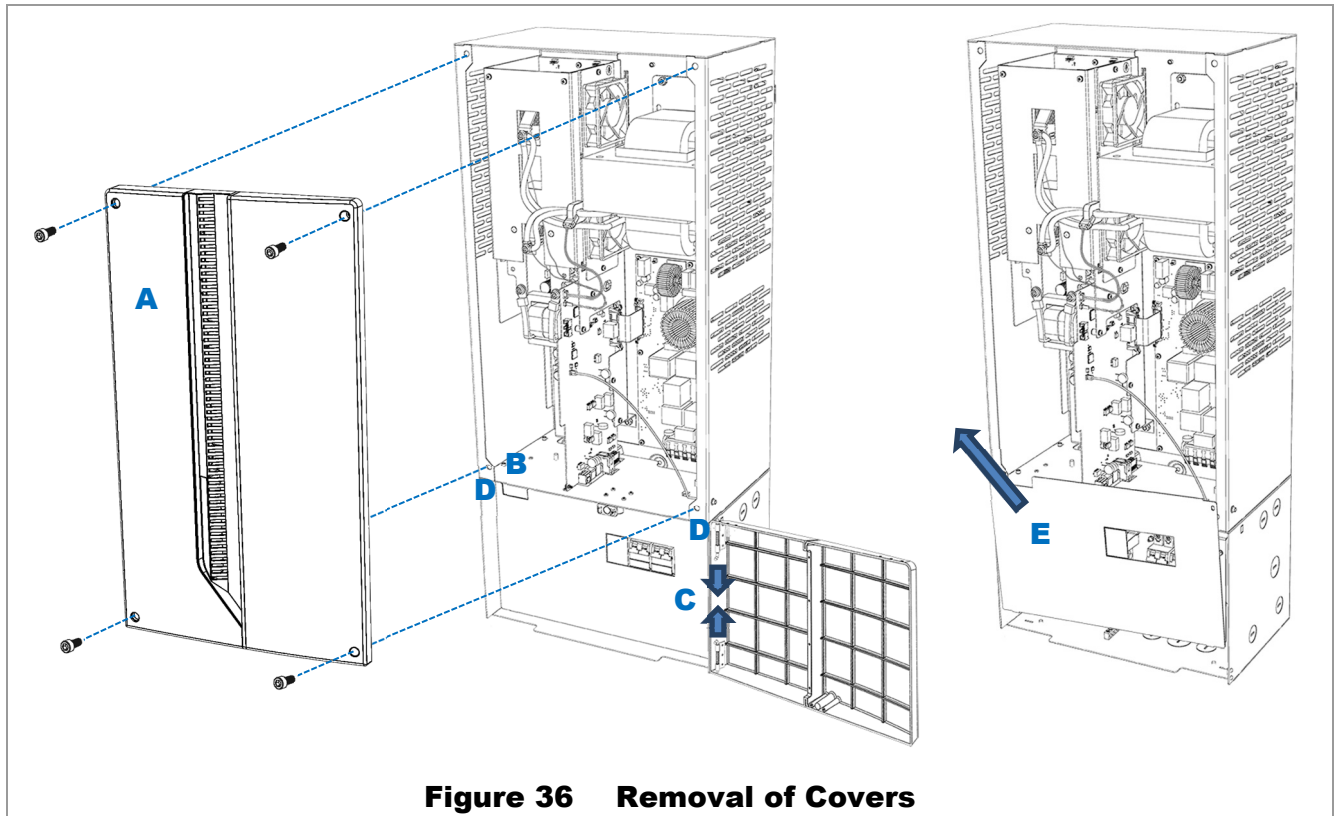

Figure 36 Removal of Covers
4. Using a 5 mm hex (Allen) wrench, remove 4 screws from the cover. Remove the cover. See **A** in Figure 36.